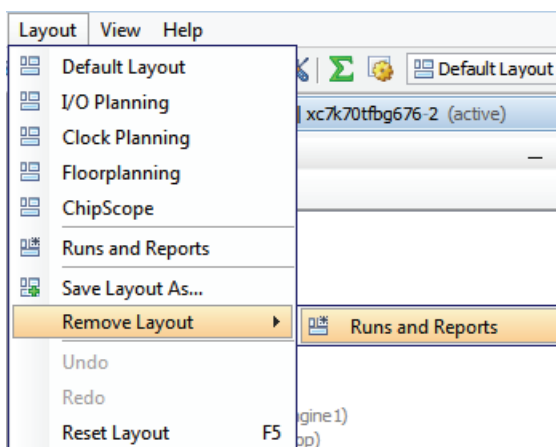

Figure 4-6: Layout Pulldown Menu
The PlanAhead tool provides predefined view layouts as shown in Figure 4-6, page 102 to facilitate various tasks in the design process. The layout of the views generally supports the required tasks for the selected design process.
- Remove user-defined view layouts using the **Layout > Remove Layout** command. This command has a submenu of any user-defined view layouts that can be removed, as seen in Figure 4-6.